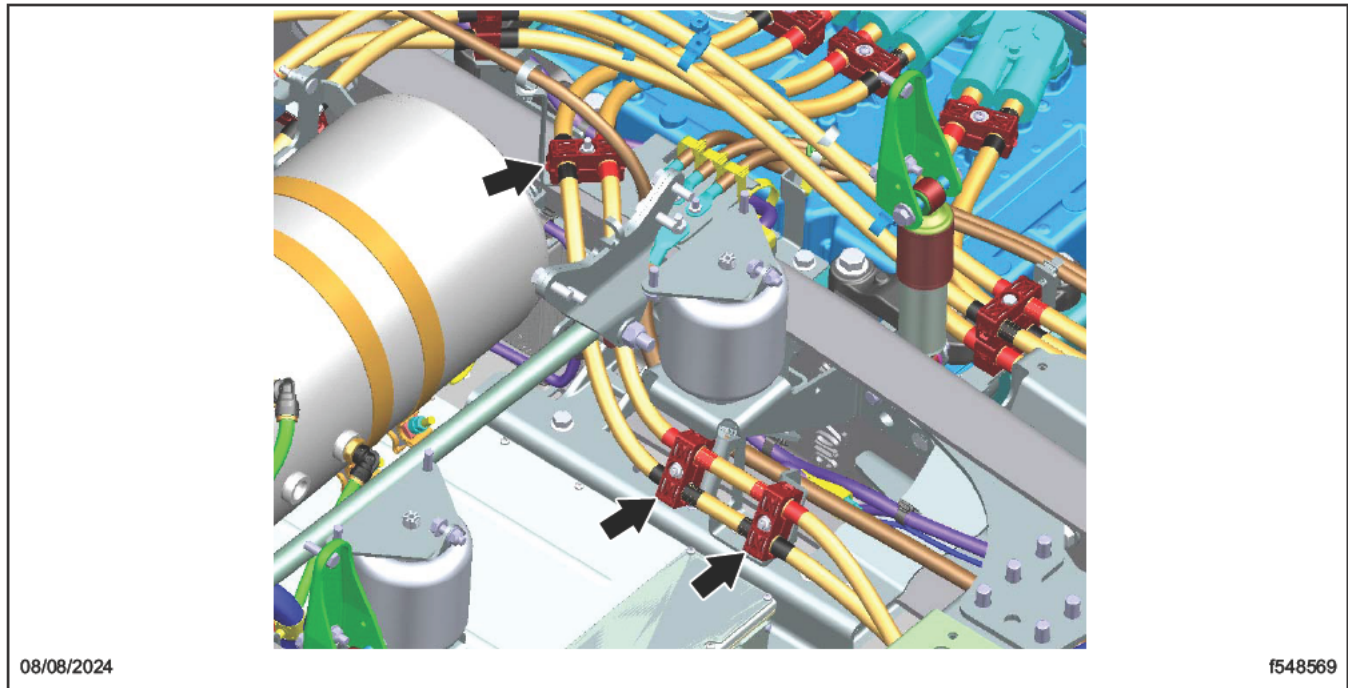

Fig. 9, HV Cable Clamps
25. Install the three HV cable clamps. See Fig. 9.